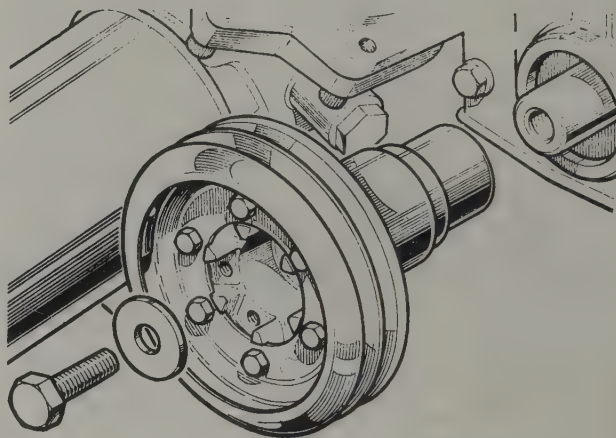

Fig. 1.25. Crankshaft pulley (torsional vibration damper)
- 15 Remove the crankshaft main pulley. (Fig. 1.25).